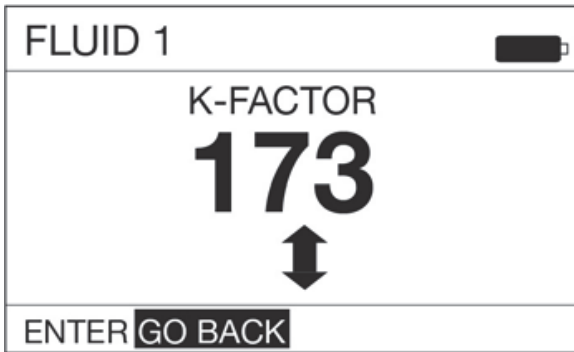

FIG. 64
- The k-factor adjustment screen shown in FIG. 64 displays.